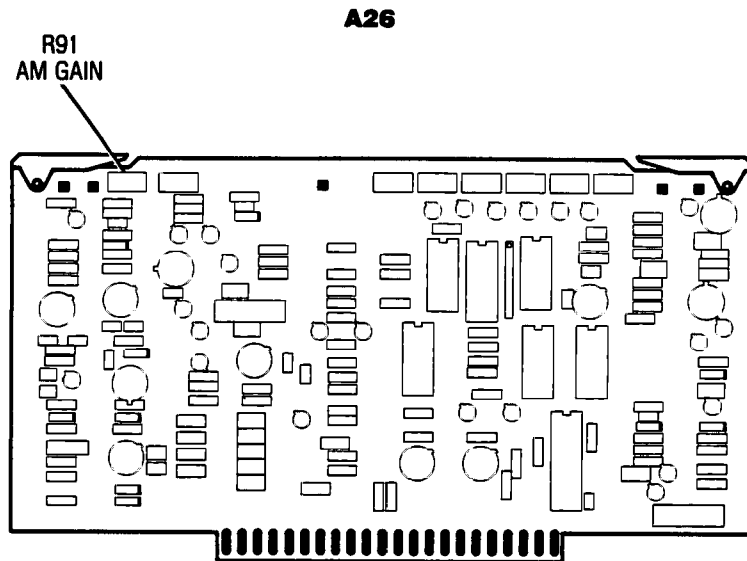

Figure 5-51. A26 Linear Modulator Component Location Diagram
- Adjust the power supply for +0.3 Vdc. The power meter indication should be between 2.18 to 2.38 dB. If the indication is not in this range, adjust A26R91 (AM GAIN, Figure 5-51) for a power meter indication within the given range.